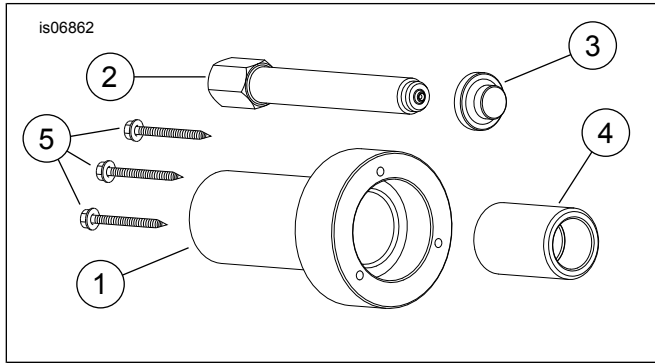

Figure 1. Service Parts: Main Seal Installer/Remover
See Figure 1 and Table 1.
2. See Figure 1 and Table 1. Select the appropriate protection device for the end of the sprocket shaft based on your engine:
- a. TC-88 based engines (except MY '06 Dynaglide), thread the sprocket shaft cap (4) onto the end of the sprocket shaft finger tight.
- b. TC-96 based engines (including MY '06 Dynaglide), slide the sprocket shaft plug (3) into the end of the sprocket shaft screw.
3. Slide the installer/remover tool main body (1) over the end of the sprocket shaft screw (2) with the large end toward the crankcase. The large end should sit snugly against the crank case.
4. Carefully install the three self tapping screws (5) through the three holes in the tool main body. Using firm pressure and the appropriate sized nut driver, turn the screws into the seal until the screw punctures through the old seal. Only perform this operation by hand and stop as soon as the screw has pierced the seal and engaged by 1 revolution. Adjust screw depth so that the clearance between the head of the screws and the main tool body is consistent so that the seal is pulled on evenly.